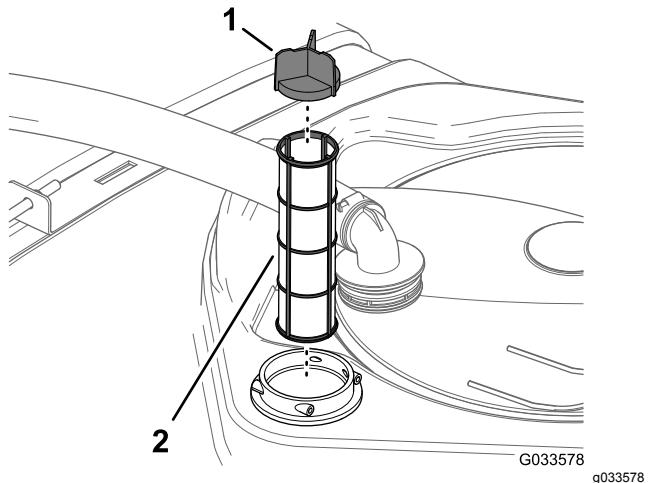

Figure 102
4. Remove the old suction filter from the filter housing in the tank (Figure 102).